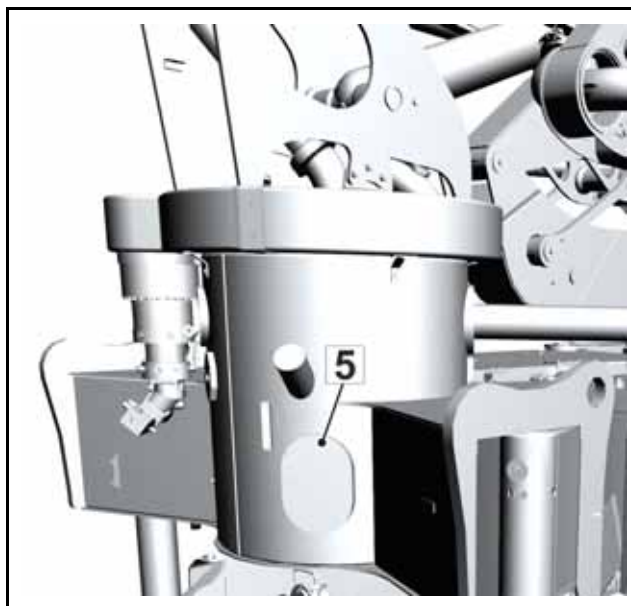

Abb. 299
- Clean the area surrounding the cleaning cover and remove the cleaning cover (5) (Abb. 299).